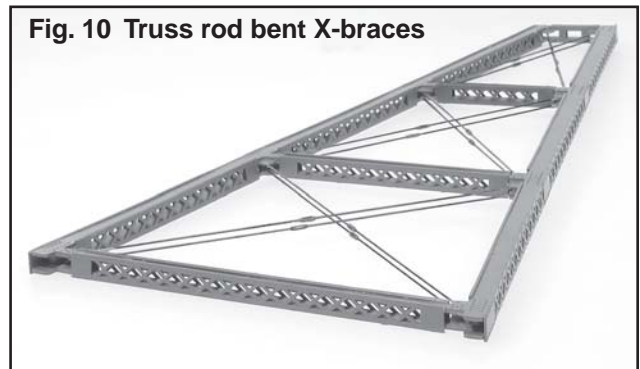

Fig. 10 Truss rod bent X-braces
9. Truss Rod Modification: Narrow gauge or light weight steel viaducts often used truss rod X-braces instead of the cross-laced lattice X-braces. To use truss rod bent X-braces, substitute .018" dia. brass wire (not included) and Grandt #4019 turnbuckles (not included) for the bent X-braces parts (11), (12) and (13). The truss rod modification will require 72 turnbuckles and eight 36" lengths of brass wire for a 3 story bridge, 48 turnbuckles and five 36" lengths of brass wire for a 2 story bridge and 24 turnbuckles and three 36" lengths of brass wire for a 1 story bridge. See fig. 10 & 11.
Tip: The turnbuckles were often located near the center of the truss rods as shown in fig. 10 & 11. Alternatively, they were sometimes located approximately six feet above the bent struts so the turnbuckle could be reached and tightened by a worker standing on the bent strut.